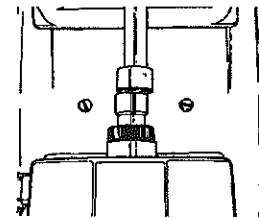
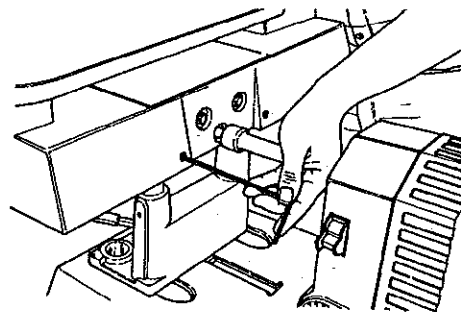
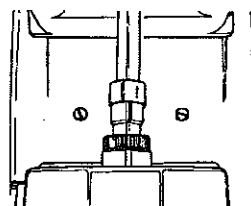
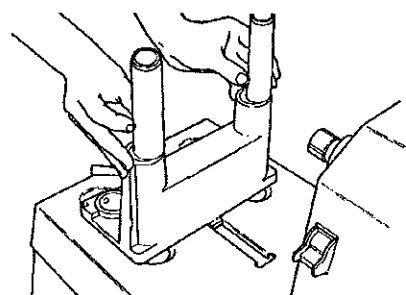

Fig.D-4
Fig.D-5
Fig.D-7
Fig.D-6
8. Fig.D-4 shows typical horizontal misalignment. Loosen the two setscrews on the Scroll Saw's tubes, as in Fig.D-5. The setscrews on the carriage's tall tube holes should still be loose, also.
9. To align the Scroll Saw horizontally, look to see how much you are out of horizontal alignment. Then lift the Scroll Saw from the carriage (21) leaving the Scroll Saw tubes in the carriage tube holes.
10. Twist the tubes to either the left or right by the amount you judge is needed to bring the coupler in horizontal alignment with the drive shaft hub (31). See Fig.D-6. When you move the tubes make sure you move them parallel to each other. It will make it easier when you rermount the Scroll Saw, and you will be more accurate in your adjustment, as in Fig.D-7.